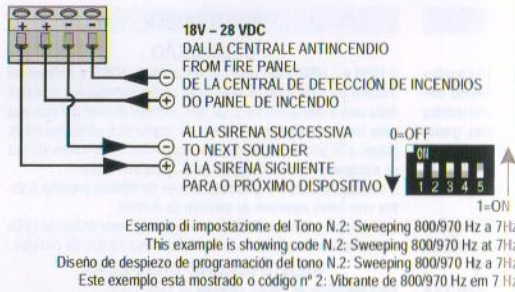
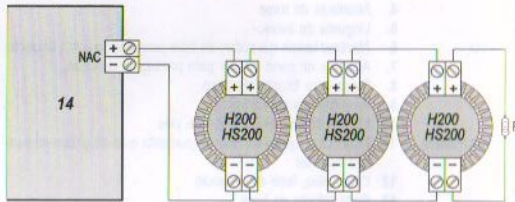

Fig. 3 Collegamenti e Microinterruttori | Connections and Microswitches
Fig. 4 Schema di collegamento alla Centrale Antincendio | Wiring diagram to the
2. Mark the position of the holes (8) for fixing the base (3) to a wall.
5. Pass the cables for the connections through the openings (7) in the bottom of the base (13). If the lateral openings (6) are being used, select suitable fittings for the tubing to the system.
6. Fix the base (3) with screws (not supplied).
7. Make the connections on the terminal board (9).
8. Select the tone to be used (see Table 1), using the microswitch (10). As in figure 3 the selected tone is N.2 Sweeping 800/970Hz at 7Hz.
10. Adjust the volume using the trimmer (11), see Fig. 3.
For the connections on the device's terminal board (9), please see Fig. 3. For connection to the Unit, use the NAC terminals (supervised polarized output), as shown in Fig. 4. The device has an internal diode for isolation during the inversion of polarity on the NAC terminals in rest conditions: it is not therefore necessary to connect the diode externally.
10. Ajuste o volume usando o dimmer (11). Consulte a Fig. 3.
Para as conexões na placa de terminal do dispositivo (9), consulte a Fig. 3. Para conexão à unidade, use os terminais NAC (saída polarizada supervisionada), como mostrado na Fig. 4. Os dispositivos possuem um diodo interno para isolamento durante a inversão da polaridade nos terminais NAC em condições de repouso, portanto, não é necessário conectar o diodo externamente.